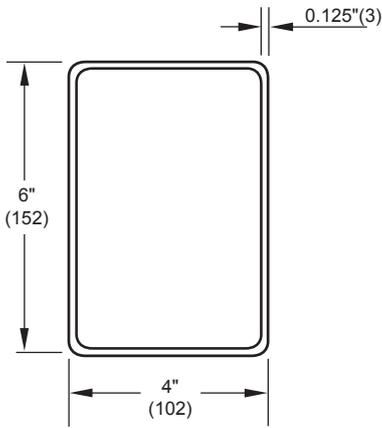
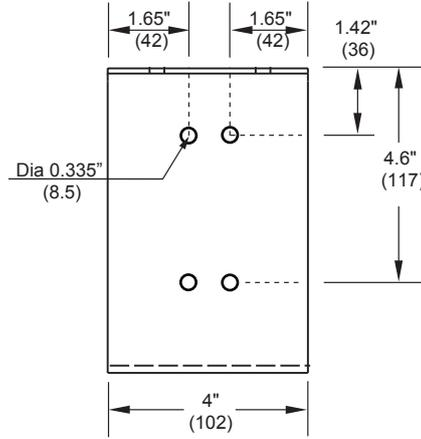

Figure 1: Mullion Tube
Figure 3: Shelf Bracket
Fabricate mullion tubes from 6" x 4" x 1/8" thick (152 x 102 x 3) hot rolled steel tubing (Construction Fig 1). Size mullion tube to be a 2 ± 1/2" (51 ± 13) shorter than the height of the rough opening. Fabricate two mullion support brackets per each mullion tube from 10 gauge (3.5) galvanized steel (Construction Details Fig 2). The brackets are to be assembled from one shelf bracket and from two support angles (See Construction Details Fig 3 & 4). The shelf bracket and support angles must be bolted together with minimum 5/16" x 1" (M8 x 25) diameter zinc plated or stainless steel carriage bolts to create the mullion support bracket. The mullion tube must overlap each support bracket by a minimum of 6" (152) (See Detail B-B).